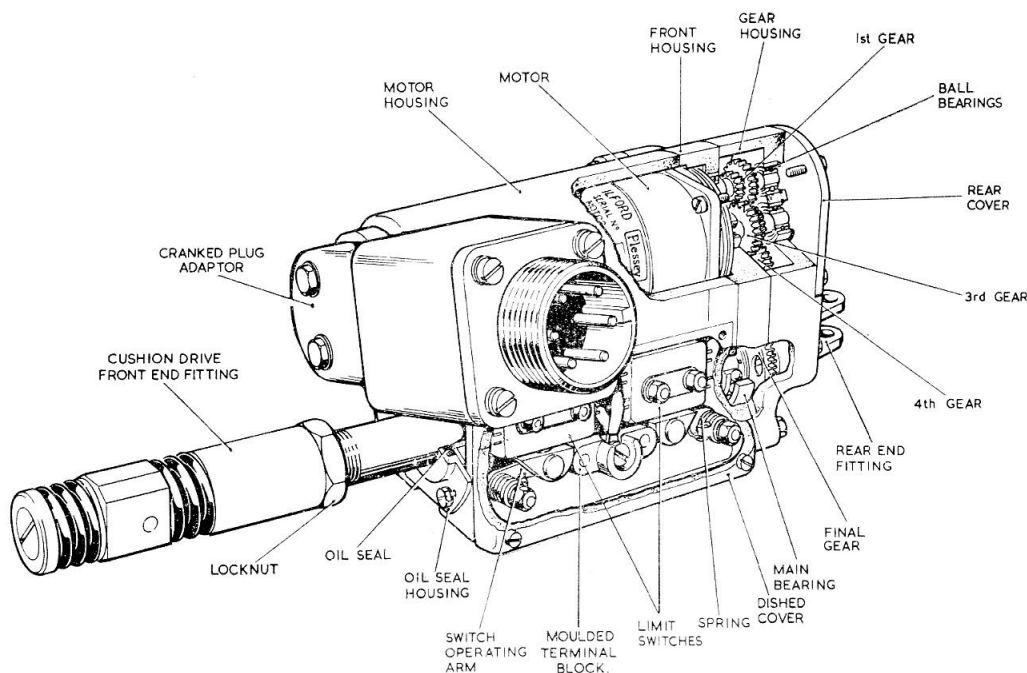
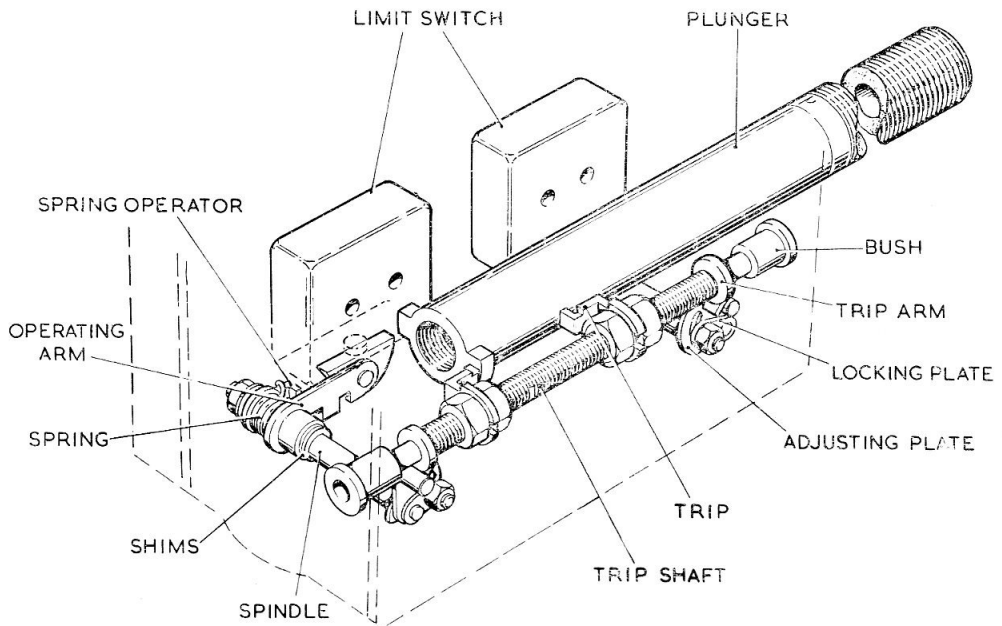
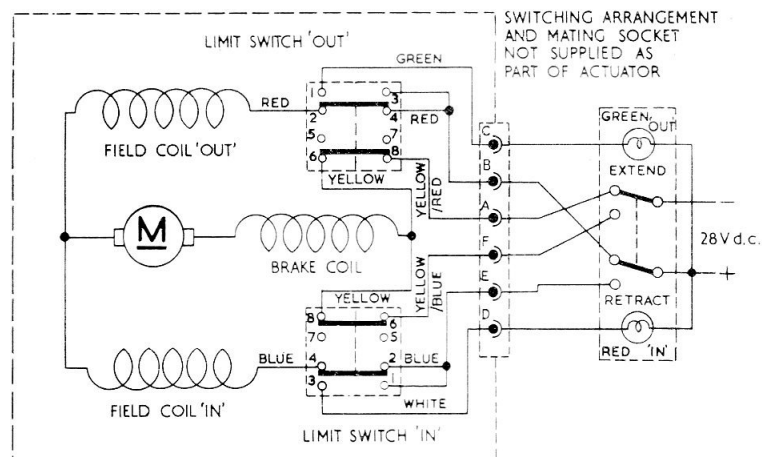
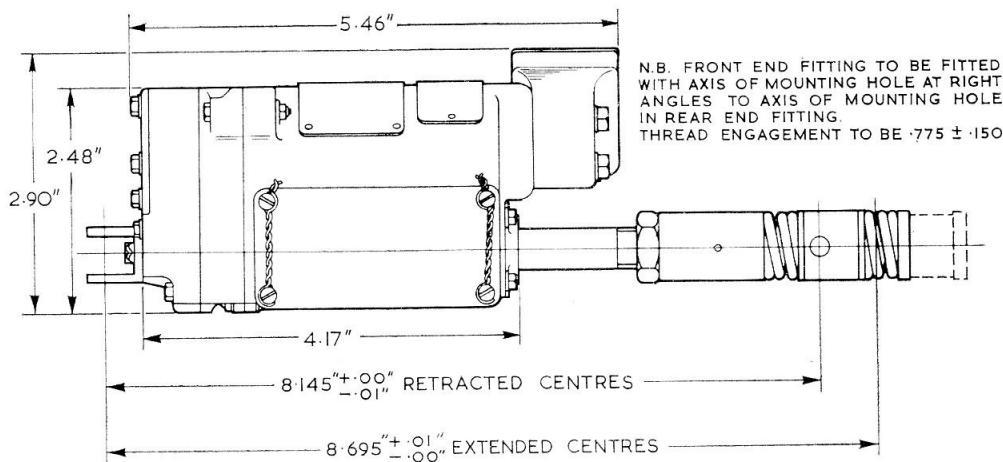

Fig. 1. Sectional view of actuator
Fig. 2. Switch operating mechanism
Fig. 3. Circuit diagram
Fig. 4. Installation diagram
1. These actuators, Plessey Type 500/1/01320 are variants in the Cub-Jaguar series described in the main chapter. This type has a cranked plug adaptor assembly, a dished switch cover assembly and a cushion drive front end fitting. These are the main discernible differences in external appearances between these actuators and other types in the series. Other changes include double-pole limit switches, modified switch mountings and switch operating mechanisms. The plunger assembly has been changed to suit the cushion drive front end fitting. These changes are shown in the sectioned view, fig. 1 and the switch operating details, fig. 2. The circuit diagram is shown in fig. 3 and the installation diagram in fig. 4.
6. The linear actuator test rig is described and illustrated in A.P.4343S, Vol. 1, Book 2, Sect. 8. The special front end fitting Plessey Part No. SK16337 is required when checking the stroke, with this type of actuator; the extension rod Plessey Part No. T381560/2 is necessary to prevent the plug assembly on the actuator fouling the test rig. The external switching and indicating circuit is shown in fig. 3.